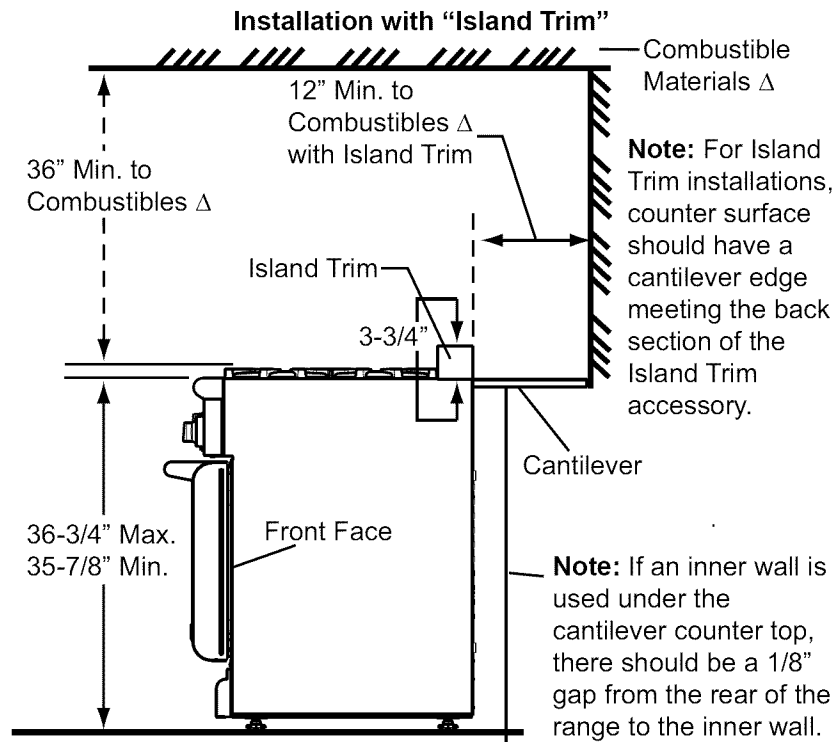

Figure 2: Side View
2. The 36" ranges may be recessed into the cabinets beyond the edge of the front face of the oven (See Figure 2). The 30" and 48" ranges are not approved to be installed flush with the cabinets
5. When there is less than a 12" horizontal clearance between combustible material Δ and the back edge of the range above the cooking surface, a Thermador Low Back or Pot and Pan Shelf must be installed. (See Figure 2). When clearance to combustible material Δ is over 12", a Thermador Island Trim may be used. (See Figure 2). Figure 2 indicates the space required for each type of backguard.
6. A three (3) inch minimum clearance is needed when the range is installed beside a combustible side wall.
- The range has an approximate shipping weight as shown in “Chart A”. The grates, griddle plate, burner caps, front kick panel, and oven racks must be removed to facilitate handling. Removing the door(s) is also recommended. (See “Step 8: Door Removal and Reinstallation” on page 18) This will reduce the weight as shown in “Chart A” and allow the range to pass through 30" doorways. See Figure 2 on page 6. **Do not remove the griddle element and tray assembly.**